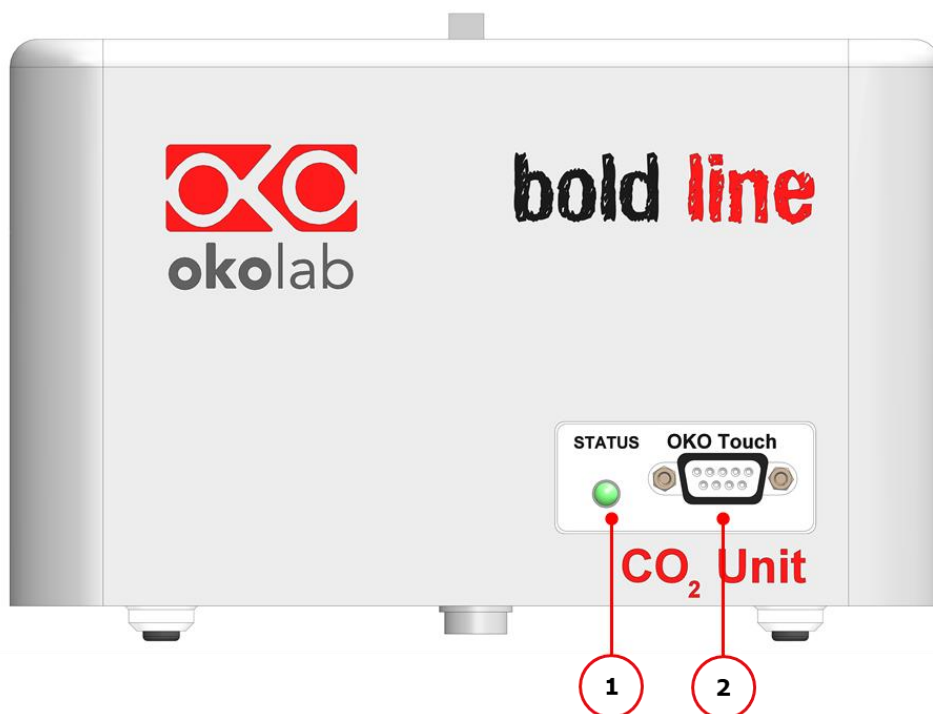

Figure 4. Gas Controller Front Panel Overview.
Figure 4 illustrates CO2-UNIT-BL front panel:
9. To switch CO2-UNIT-BL on use the power button on OKO-TOUCH. The Status LED (1 in Figure 4) on the front of CO2-UNIT-BL will turn green.